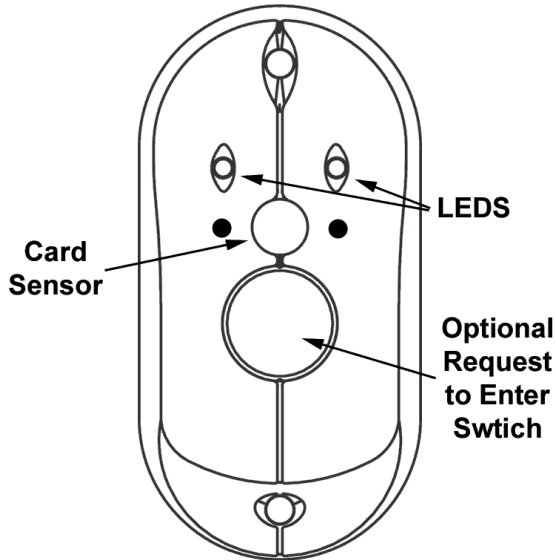
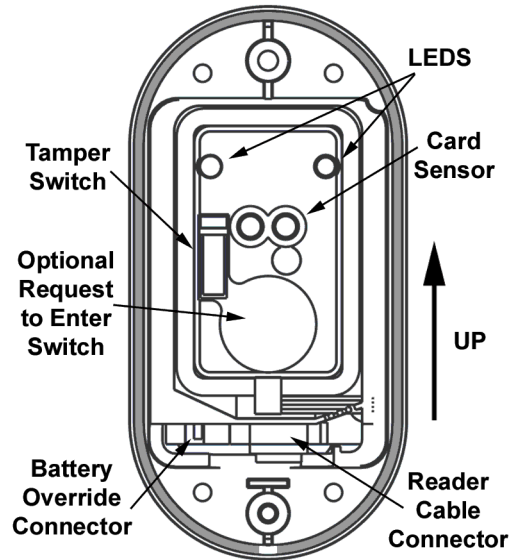

Figure 2-29 – Reader Cover Components
Figure 2-30 – Reader Base Plate Components
The Reader consists of two major components: the Reader Cover (Figure 2-29) and the Reader Base Plate (Figure 2-30). The Reader is mounted on the outside of the door.
- 2.11.6 If the Reader is equipped with an optional Request to Enter Switch (Figure 2-29), before installing the Reader Cover, route the Request to Enter switch wires through the Reader Cable Hole from the Reader side to the Transceiver side of the door. On the Transceiver side, connect the Request to Enter wires to the mating connector.